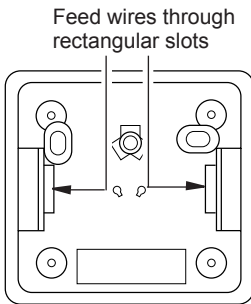

Figure 25 - Back View of Thermostat Base
5. Feed electrical wires through rectangular slots on each side of base (see Figure 25).